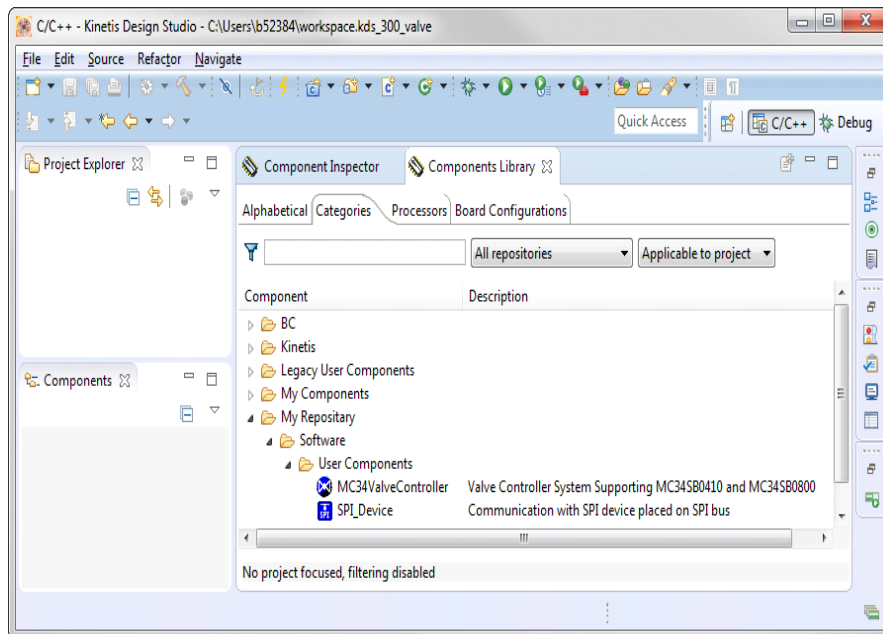

Figure 8. MC34ValveController Component Location After Importing to Kinetis Design Studio
3. If the import is successful, the MC34ValveController component appears in Components Library -> SW -> User Component (see Figure 8). The component is now ready to use.